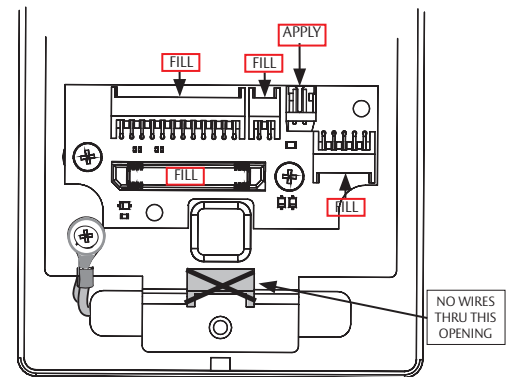

Fig. 10A
- Ensure all connector pins and contacts (Fig. 10A) are covered - do not overfill or over-apply**
Secure the following connectors (Fig. 10A, B):